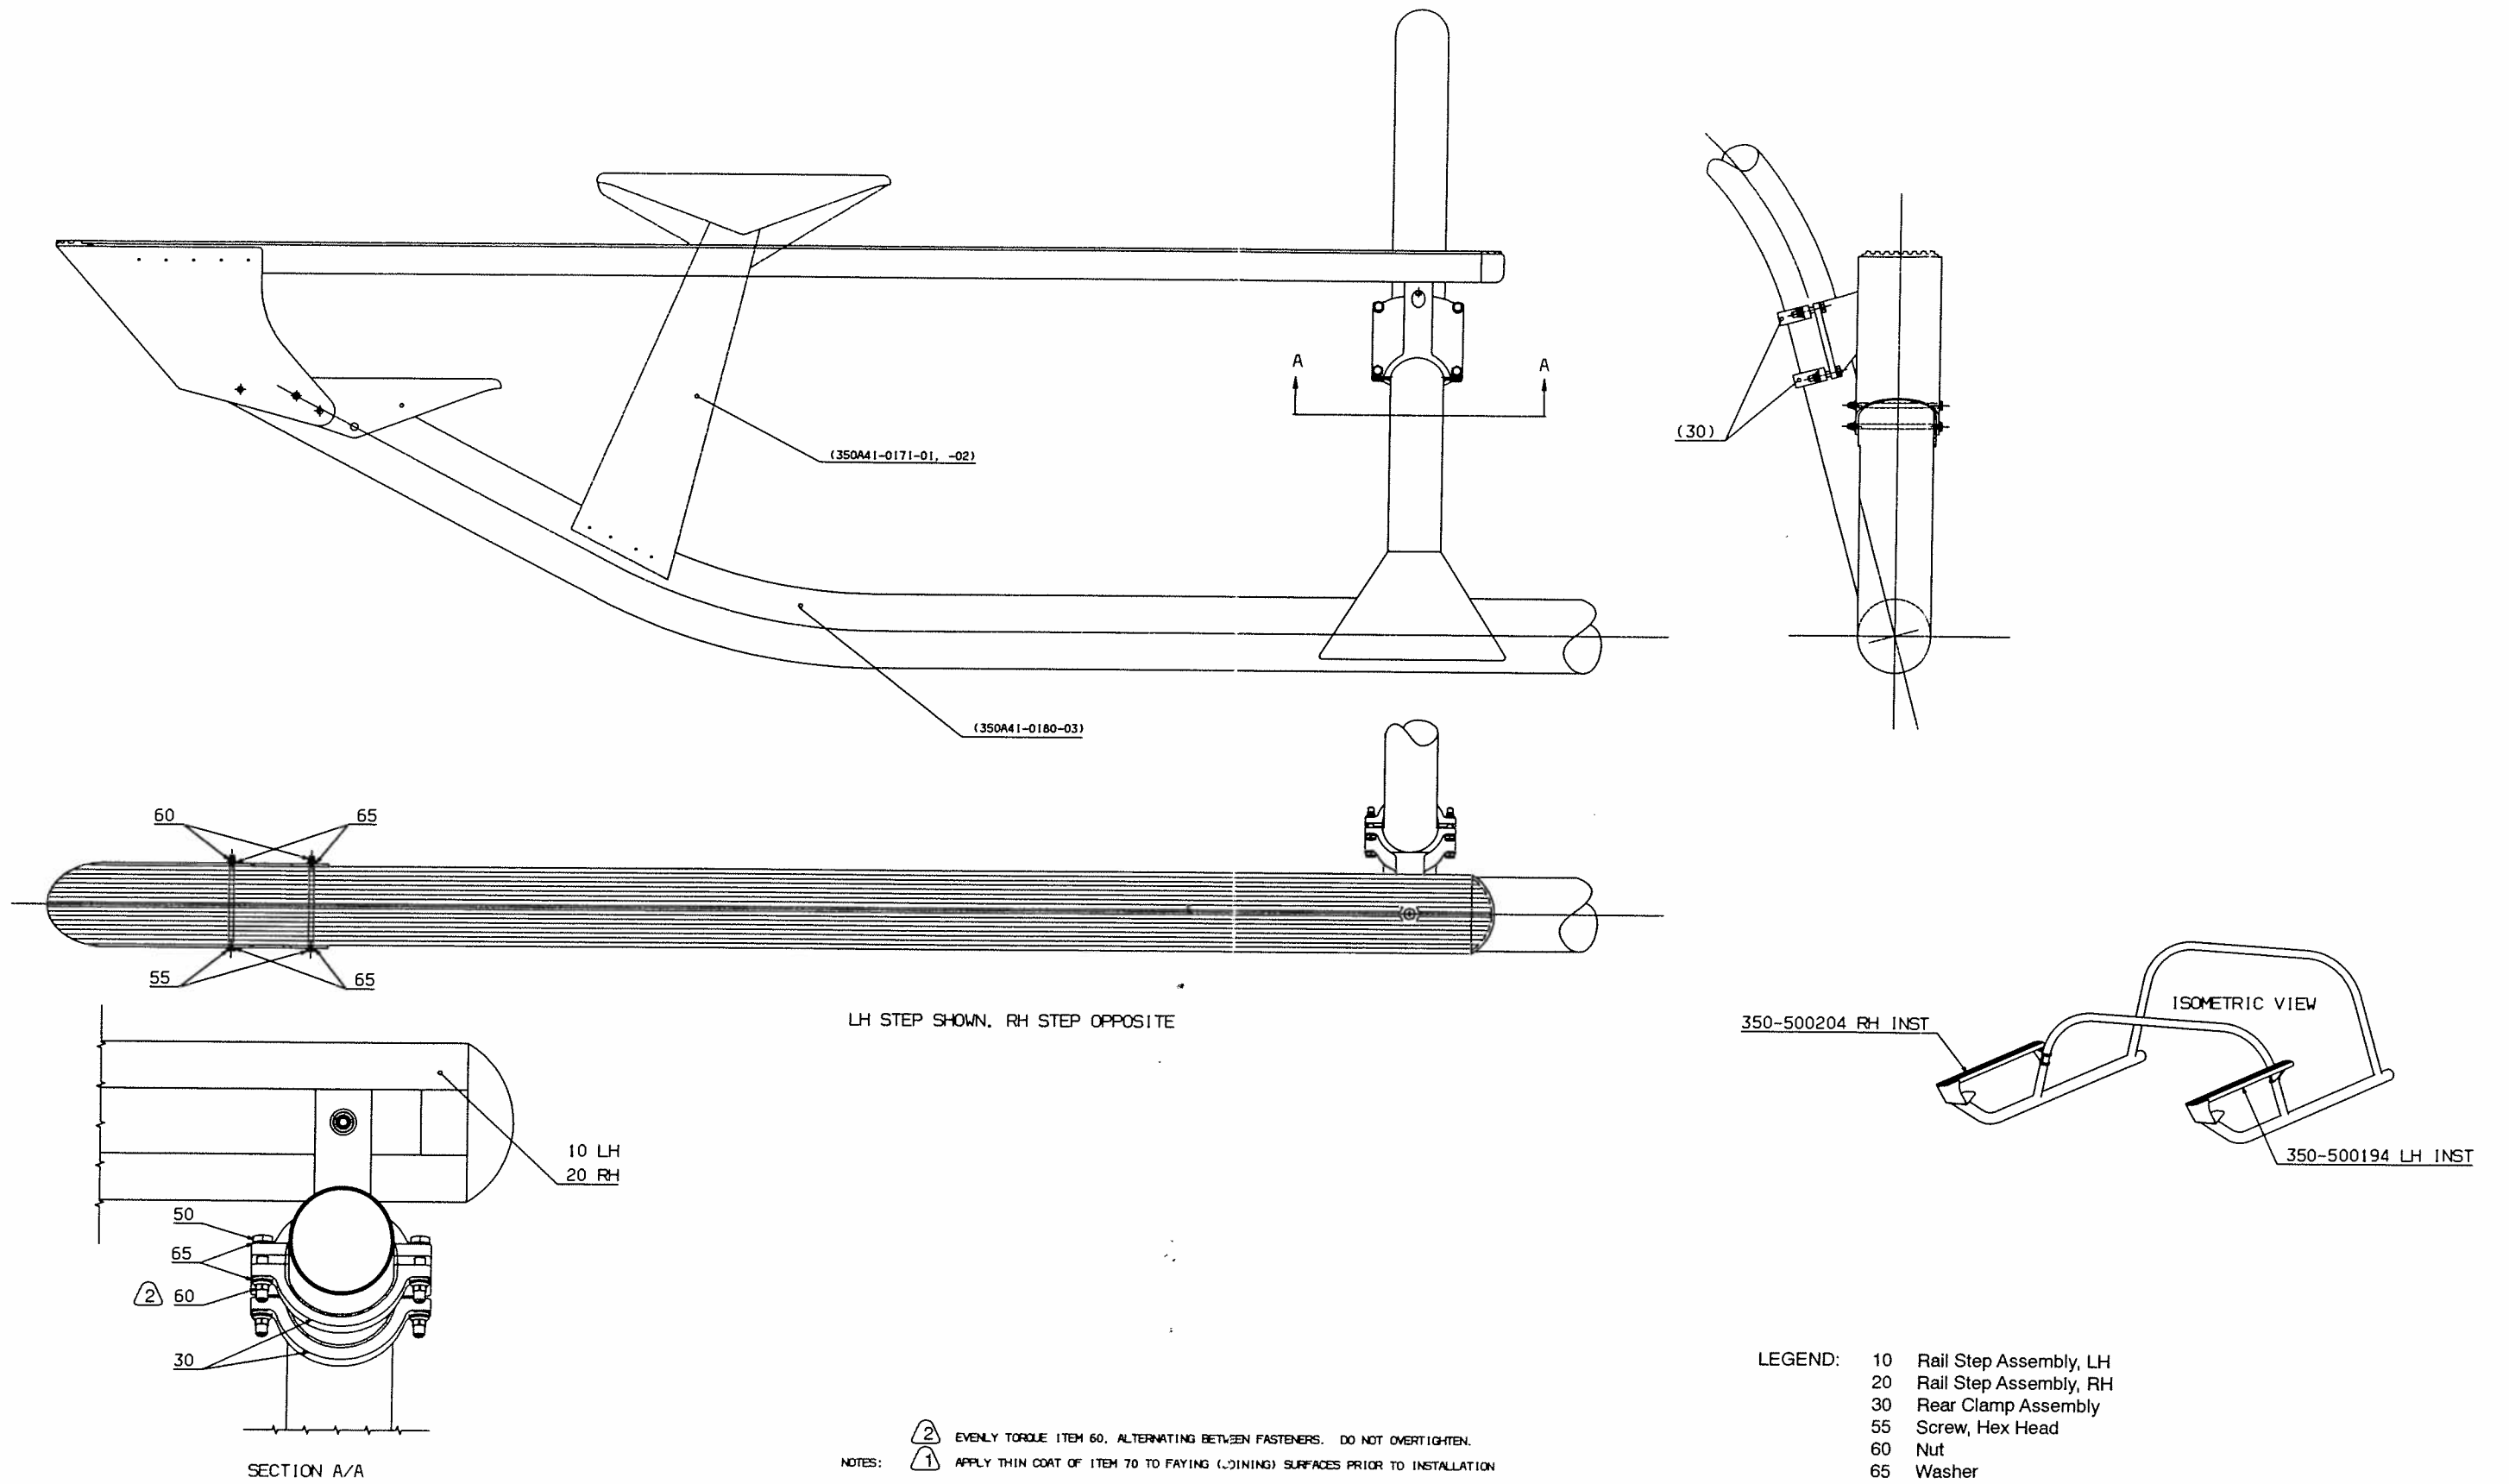

Figure 1 Rail Step Installation
1. Remove nut (60, Figure 1) and washer (65) on fwd end of rail steps.